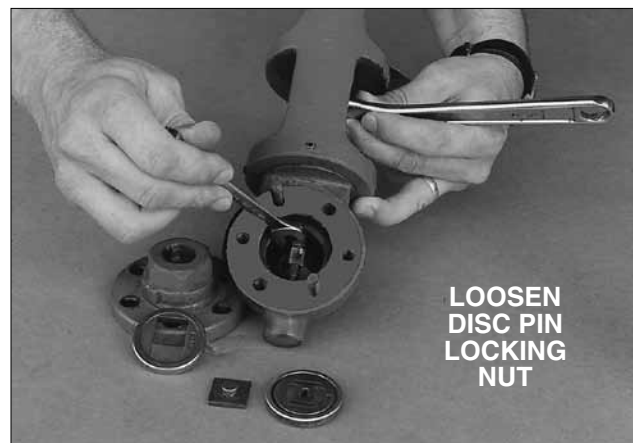

Figure 39
- Loosen the disc-pin locking nut and allow at least 10 minutes for the valve to react (see Figure 39).